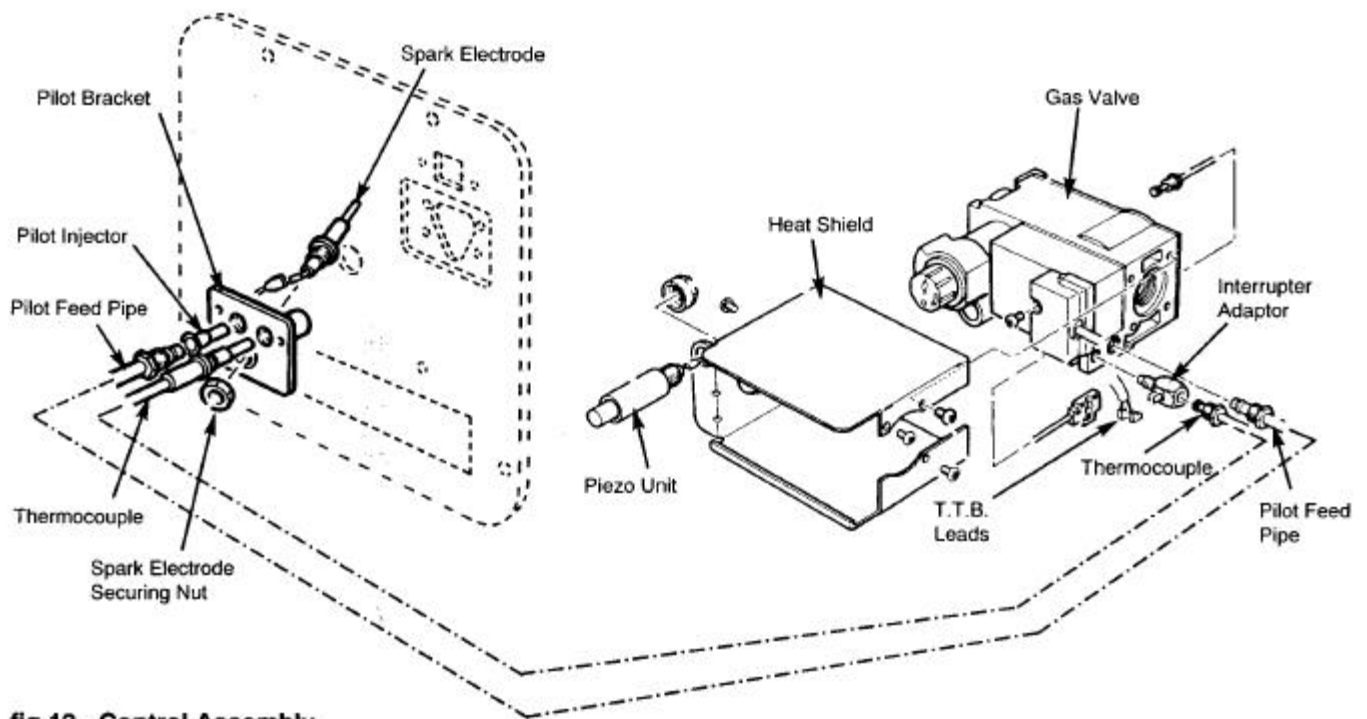

fig 12 - Control Assembly
- 13) Clean the pilot as follows: Unscrew the pilot tubing nuts at both ends and remove the pilot tube. Remove and clean the pilot injector and clean the pilot shroud (Fig 12).
- 3) Release the thermocouple nut at the side of the gas valve from the interrupter adaptor (Fig. 12).
- 3) Release thermocouple nut and interrupter device from the valve (Fig 12).
T.T.B. ASSEMBLY (Fig 12)
GAS VALVE (Fig 12)
PIEZO UNIT (Fig 12)
SPARK ELECTRODE (Fig 12)